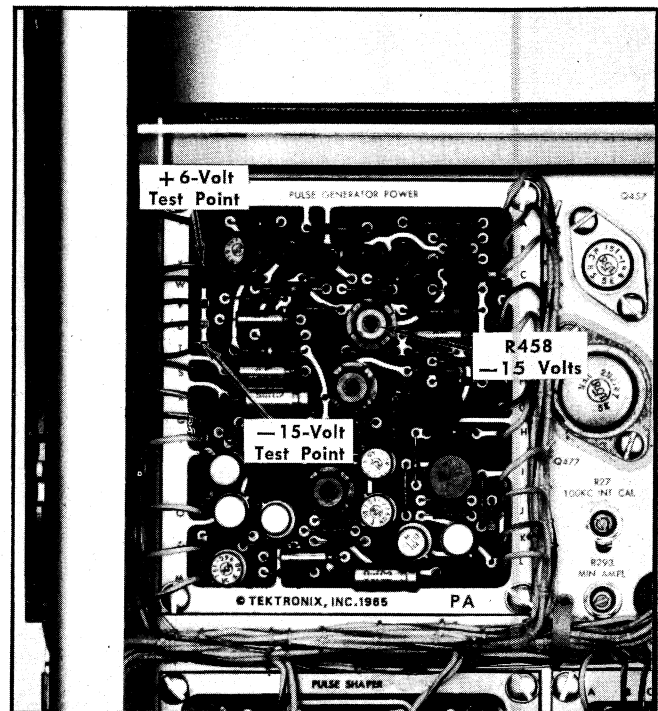

Fig. 6-4. Location of Pulse-Generator Power Supply test points and adjustments (Pulse-Generator Power board).
- Connect the dc voltmeter from the —15-volt test point (pin connector T, Pulse-Generator Power board; see Fig. 6-4) to chassis ground.
- Adjust— —15 Volts adjustment, R458 (see Fig. 6-4), for —15 volts.
- Connect the dc voltmeter from the +6-volt test point (pin connector X, Pulse-Generator Power board; see Fig. 6-4) to chassis ground.
point (pin connector T, Pulse-Generator Power board, see Fig. 6-4) to chassis ground.
- Connect the dc voltmeter to the +6-volt test point (pin connector X, Pulse-Generator Power board; see Fig. 6-4) to chassis ground.
- d. Connect the  $1\times$  probe tip to the  $-15$ -volt test point (pin connector T, Pulse-Generator Power board; see Fig. 6-4). Connect the probe ground lead to chassis ground.
- f. Connect the  $1\times$  probe tip to the  $+6$ -volt test point (pin connector X, Pulse-Generator Power board; see Fig. 6-4). Connect the probe ground lead to chassis ground.